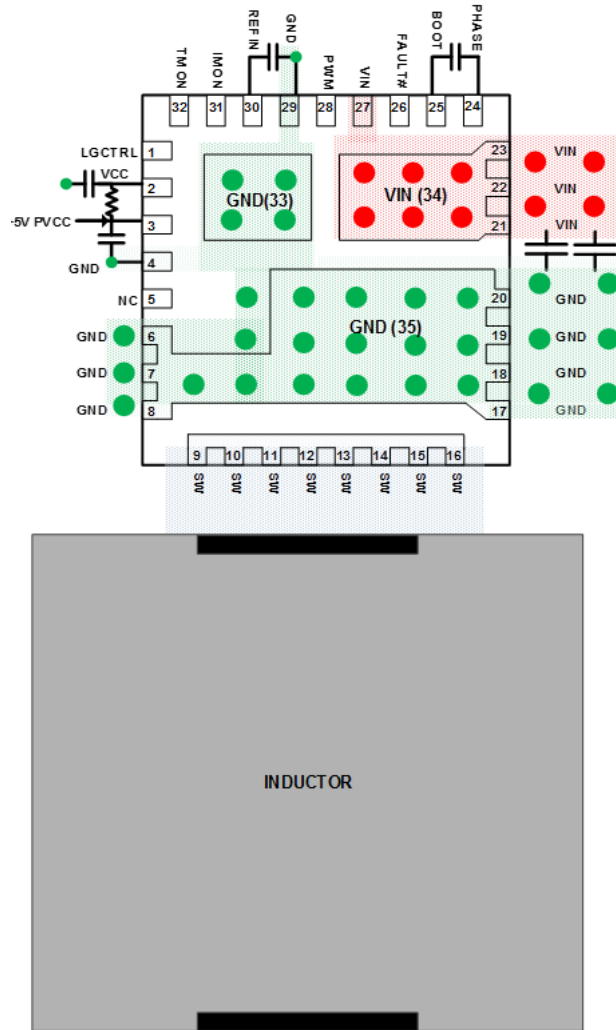
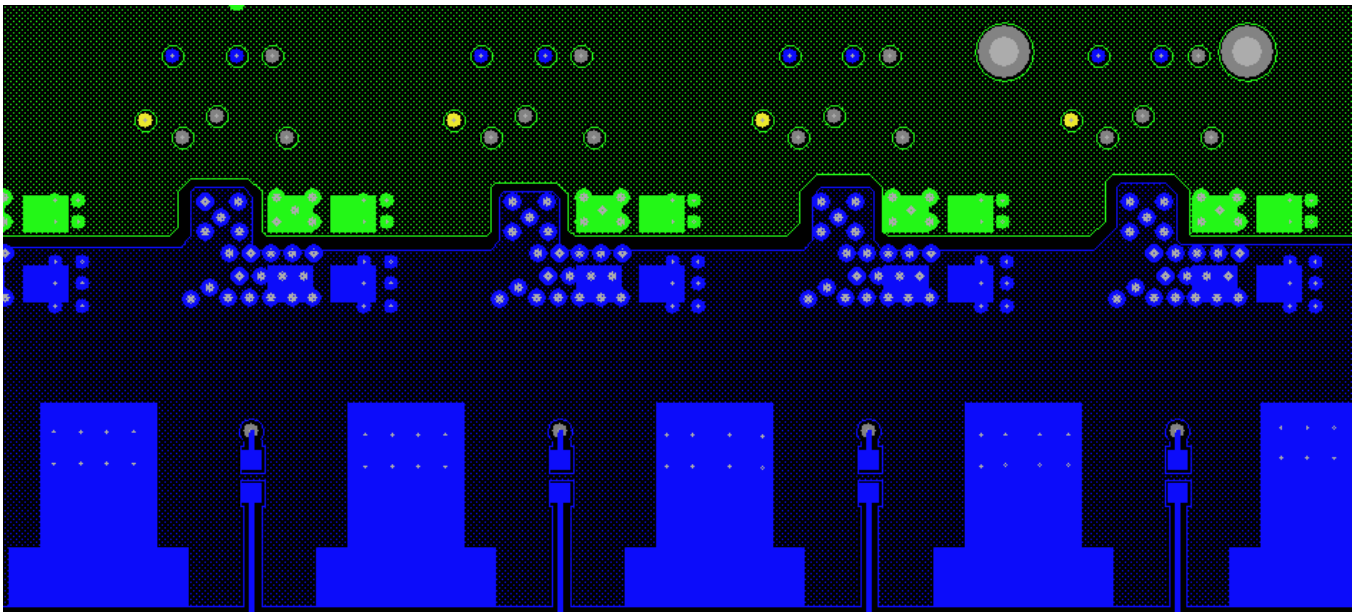

FIGURE 15. SINGLE-PHASE PCB LAYOUT FOR MINIMIZING CURRENT LOOPS
FIGURE 17. MULTIPHASE PCB LAYOUT EXAMPLE BOTTOM LAYER
- Place multiple 10 $\mu$ F or greater ceramic capacitors directly on the device between VIN and GND as indicated in Figure 15 on page 14. This is the most critical decoupling and will reduce parasitic inductance in the power switching loop. This will reduce overall electrical stress on the device as well as reduce coupling to other circuits. Best practice is to place the decoupling capacitors on the same PCB side as the device. For a design with tight space requirements, these decoupling capacitors can be placed under the device, that is, bottom layer, as shown in Figure 17 on page 15.
- Place PVCC, VCC, and BOOT-PHASE decoupling capacitors at the IC pins as shown in Figure 15 on page 14.
- The IMON and IREF network and their vias should not sit on the top of the VIN plane. A keep out area is recommended, as shown in Figure 17 on page 15.